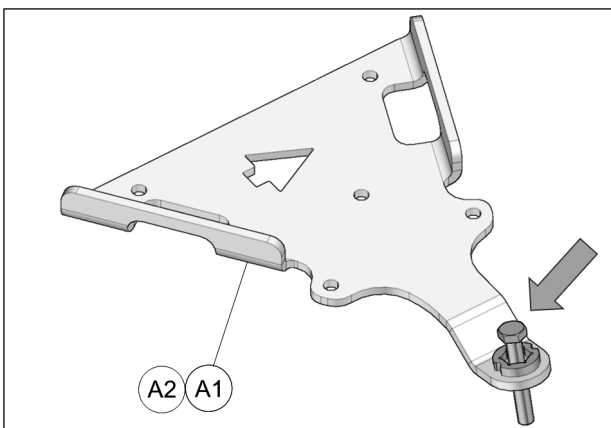

Fig. 13
5. Insert bolt in front anchor brackets (A1-A2) as shown in Fig. 13